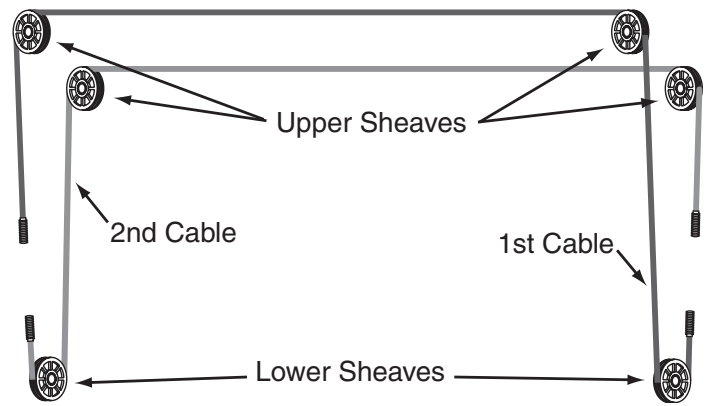
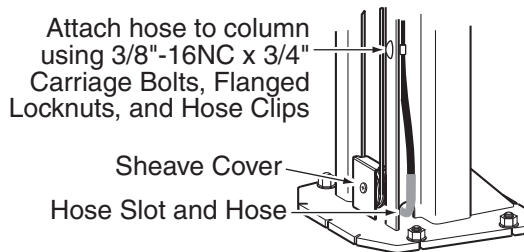
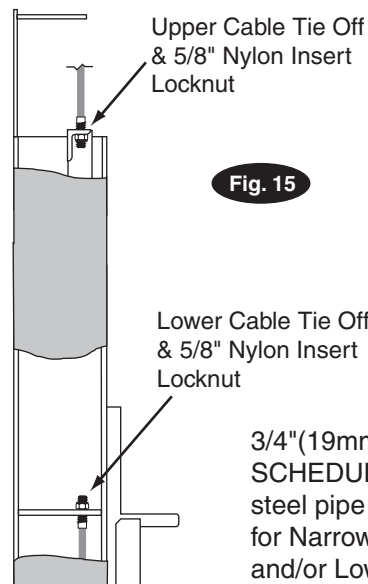

Fig. 14
Fig. 12
Fig. 15
NOTE: Route Power Unit hose inside columns using slots provided at column base, Fig. 12. Route Overhead Hose in column channel on outside of column, Fig. 12. Overhead hose goes over top end of overhead assembly, Fig. 13.
- B) Refer to Fig.14 for the general cable arrangement. First, run a cable end up through the small hole in the lower tie-off plate. Fig.15.
- E) Pull the cable back down, Fig. 15.
- F) Run cable around the lower sheave, then up and around overhead sheave and across and down to the opposite carriage, Fig. 14. Install sheave cover, Fig. 12.
- G) Fasten the cable end to the carriage upper tie-off bracket, Fig. 15. Tighten the locknut enough to apply light tension to the cable.